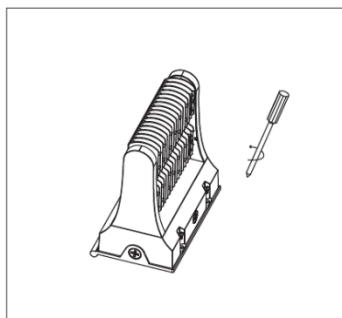
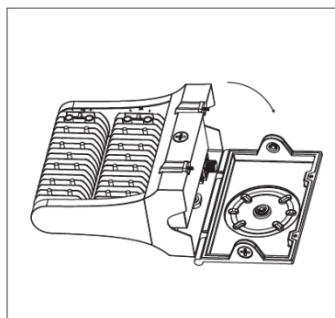

Figure 1
Figure 2
Step 1: Use a screwdriver to loosen the screws connecting the lamp base so as to remove the lamp base cover (Figure 1 & Figure 2) ;